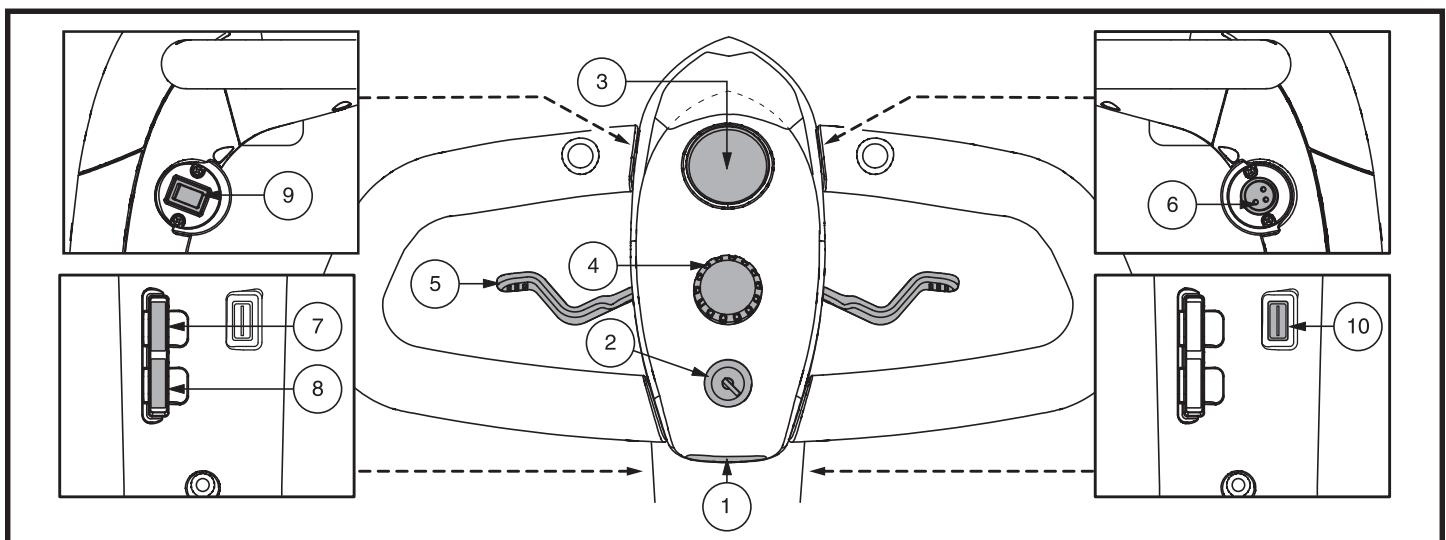

Figure 5. Tiller Console E (Model Jazzy ZTS)
*Charger Power Cord Receptacle (Tiller Port) also functions as a Programming Port in Tiller Consoles E and F (see **figures 5 and 6**).